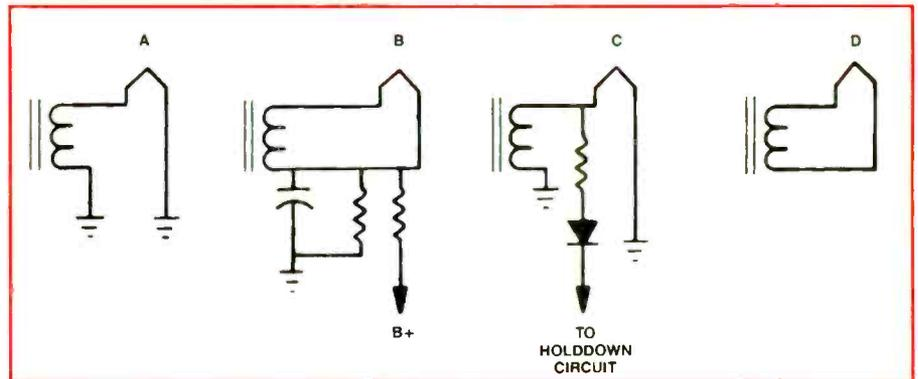

Figure 1. Some typical examples of CRT filament connections to the high voltage transformer (HVT). See text for details of each type of connection.
First, let's look at some typical examples of connections of the CRT filament to the high voltage transformer (HVT). See Figure 1.
**Figure 1.** If you encounter a TV set with a heater to cathode (H-K) short, an isolation transformer such as this one, which you can make yourself, will allow you to restore the set to almost perfect operation.
You should be able to just fit 12 turns on the core in a single layer. Then make one more turn with each set of wires in a second layer for a total of 14 turns. Give the ends a twist next to the core and wrap a little tape around the twist to hold it together. You should have about two inches of wire left over for external hookup. See Figure 1.
So how can we make the other filament circuits in Figure 1 as free of dc connections as the one in Figure 1D?